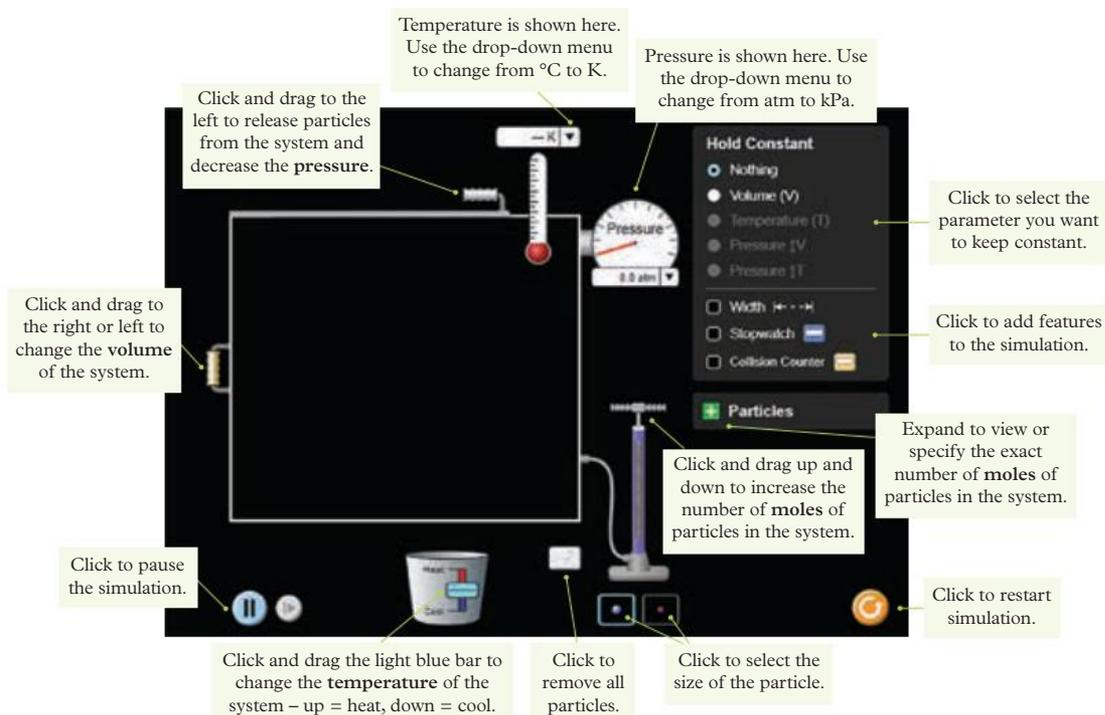

FIGURE 1 How to use the PhET Gas Properties simulator
- 2 Select 'Ideal' to simulate gas behaviour at SLC. The instructions for using the simulator are shown in Figure 1.